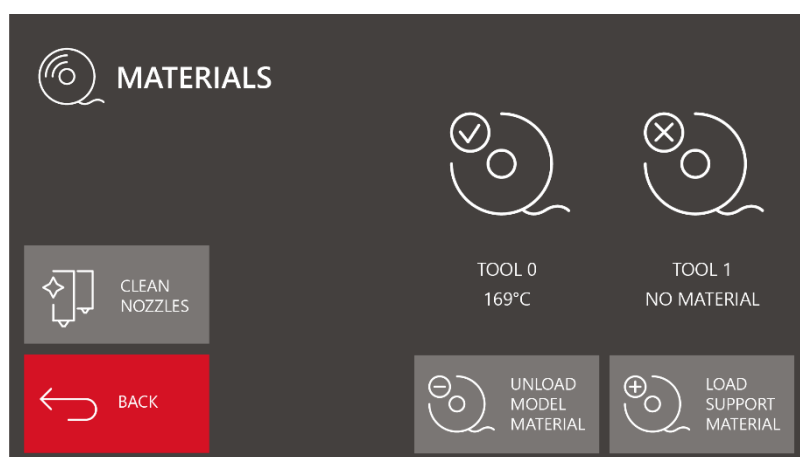

Fig. 21 MATERIALS menu screen
**MATERIALS** – displays the screen with information and options related to loading, unloading and change of consumables (fig. 21).
In the example shown in fig. 21, the material for TOOL 0 is loaded (this is indicated by ✓ icon next to the material spool graphic symbol and the material loading temperature); UNLOAD MODEL MATERIAL option is active in this case. No material is loaded for TOOL 1 (this is indicated by ✗ icon next to the material spool graphic symbol and NO MATERIAL message) – LOAD SUPPORT MATERIAL option is active.